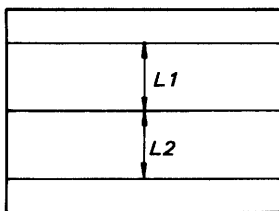

Figure 8
14) Adjust RV17 (V LIN (green)) so that L1 and L2 are equal as shown in Figure 8 .